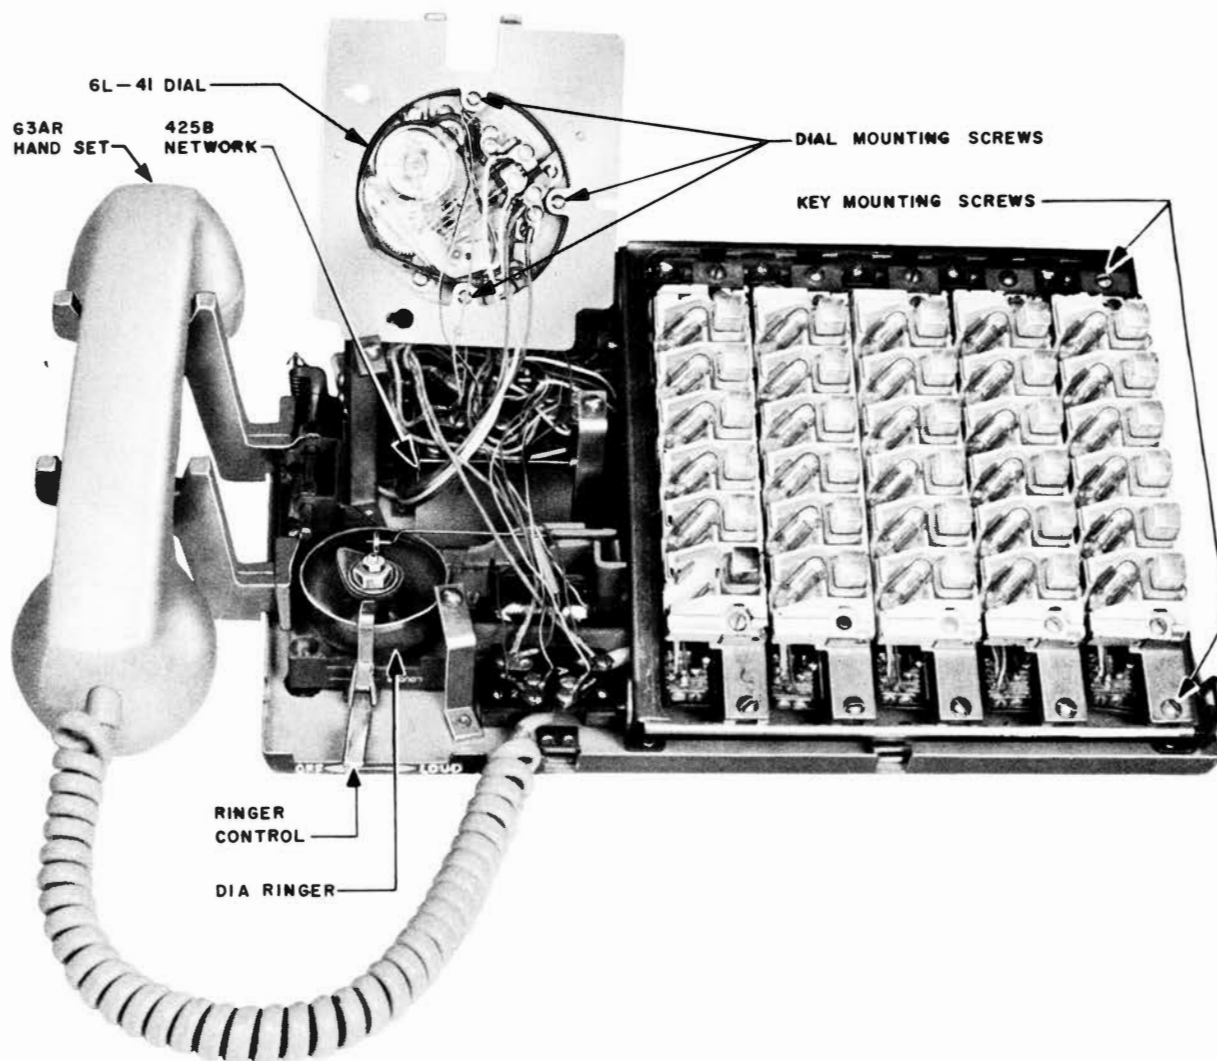

Fig. 10 — 601-Type Telephone Set, Dial Mounting Plate Lifted
5. Remove screws which hold dial to mounting plate (Fig. 10).
2. Loosen screws at top and bottom of key frame (Fig. 10).